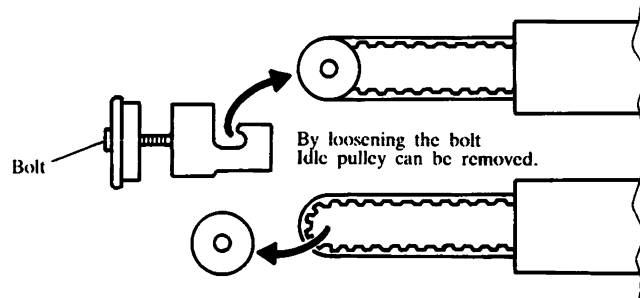

Fig. 75
- (4) Loosen the bolt for left end cover and remove the idle pulley from the driving belt. (Refer to Fig. 75)